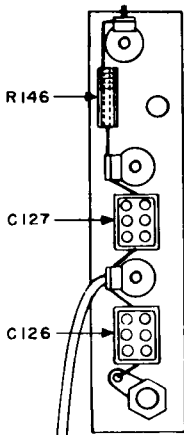

Figure 6-5. Capacitor-Resistor Assembly, E108
f. CAPACITOR-RESISTOR ASSEMBLY E108. - This unit, shown in detail in Figure 6-5, mounts in a shielding channel beneath the binding post E102, Figure 5-4. Do not remove the shield channel or the bracket but simply:-